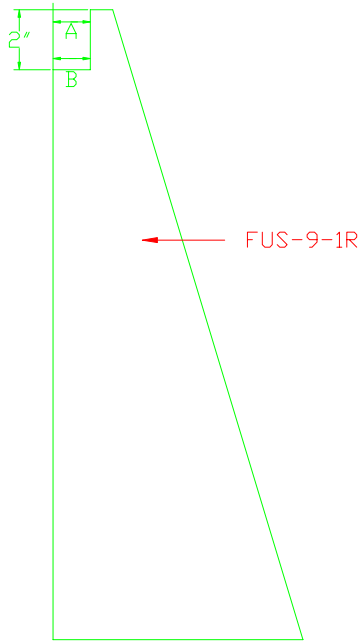

Figure 9.21.1
- 1) The FUS-9-1R should be marked and trimmed for installation. First notch the top to clear the FUS-03 Carry Through. Figure 9.21.1.